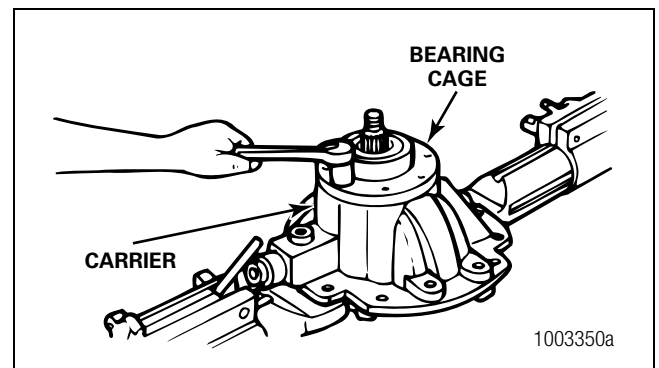

Figure 3.23
5. Remove the capscrews and washers that hold the bearing cage in the carrier. Figure 3.23.